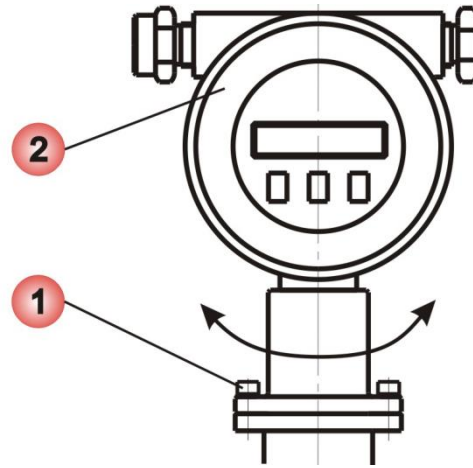

Fig.2.11 - Rotation of electronic unit
If electronic unit is out of viewer sight, rotate it to the angle of 90° or 180°. Release 4 bolts (1) (see fig.2.11) Rotate electronic unit (2) to 90° or 180° in necessary direction, tighten the 4 bolts to secure connection.